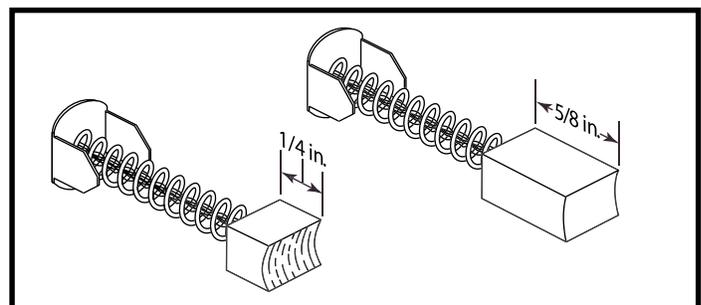

Figure 26. Motor Brushes
9. Inspect for wear. See figure 26. If the brushes are 1/4 in. or less, replace the brushes. Contact your authorized Pride Provider for replacement brushes.